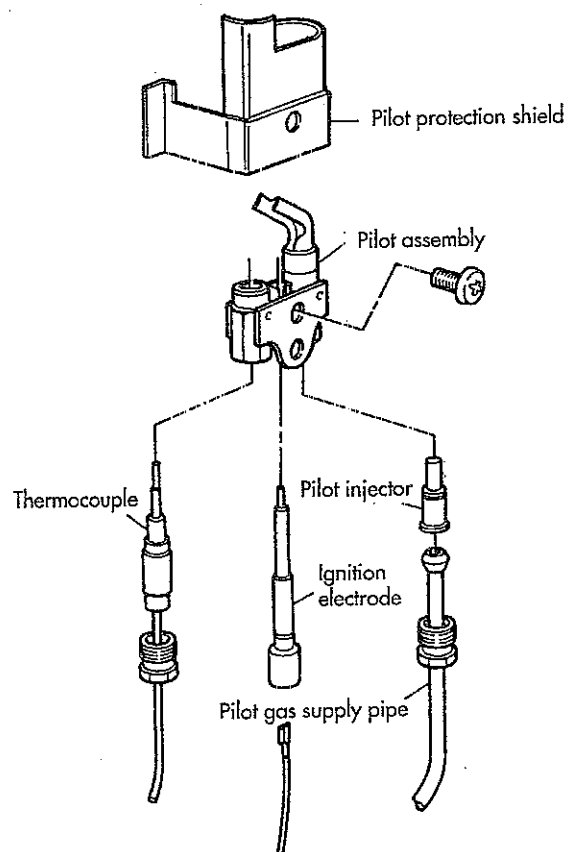

Fig. 36
- i) Unscrew the pilot burner supply compression nut, and remove the supply pipe and injector. (Injector is a sliding fit to supply pipe) (fig. 36).
- j) Re-assemble in reverse order. Ensure that the pilot works correctly and that the pilot flame envelopes the thermocouple tip (fig. 36).